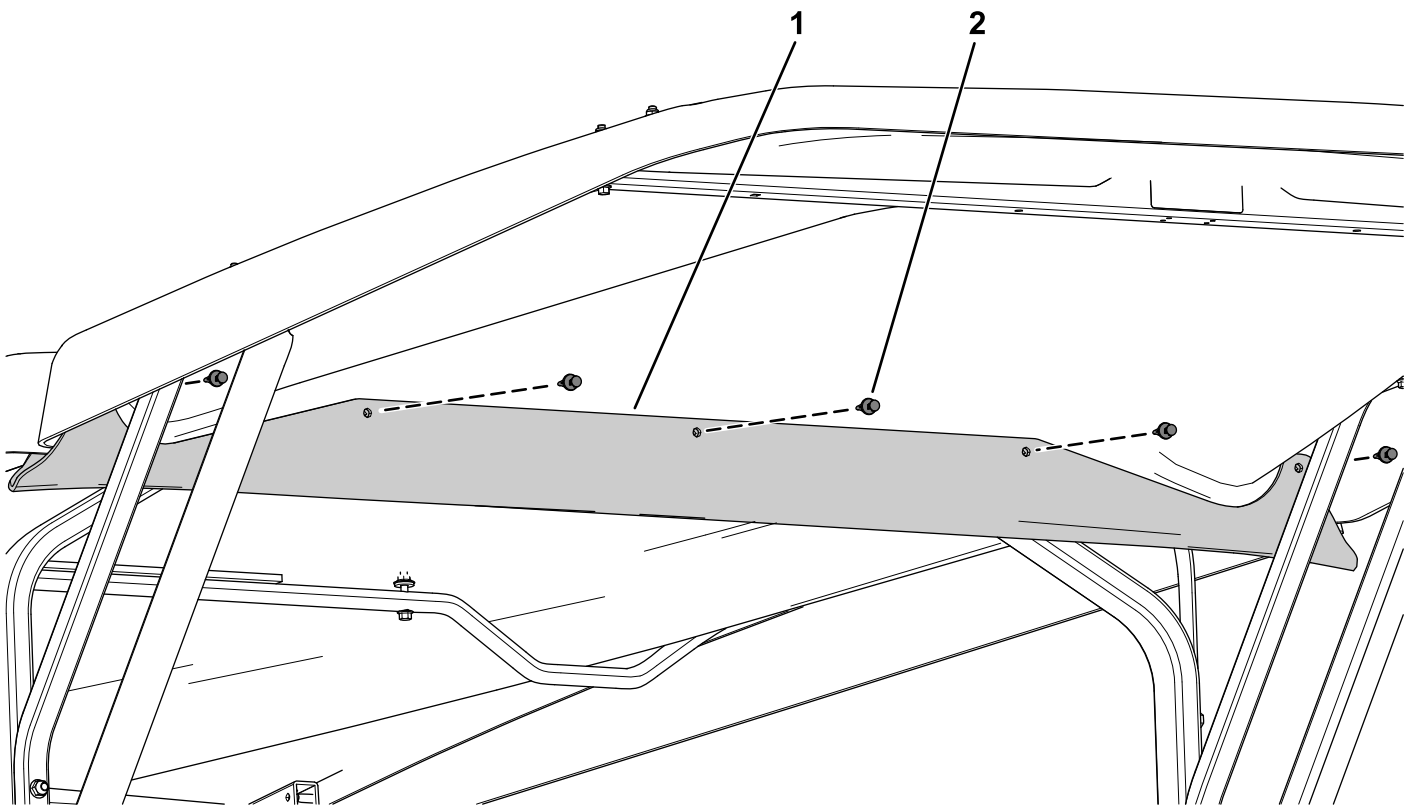

Figure 8
1. Secure the rain gutter to the canopy extension side using 5 plastic rivets (Figure 8).